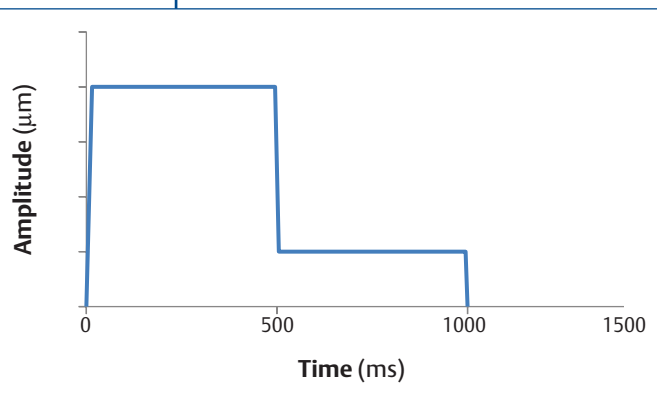

Fig. 1
- Patented Amplitude Stepping for optimization of weld strength and appearance (Fig. 1)